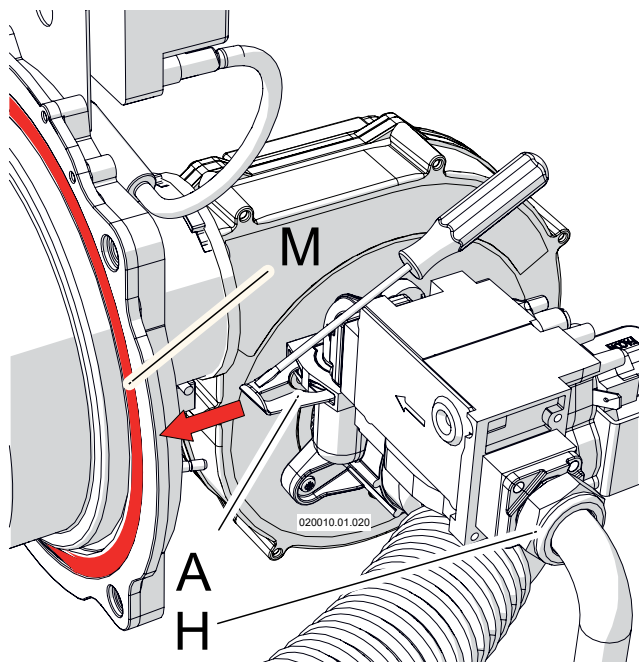
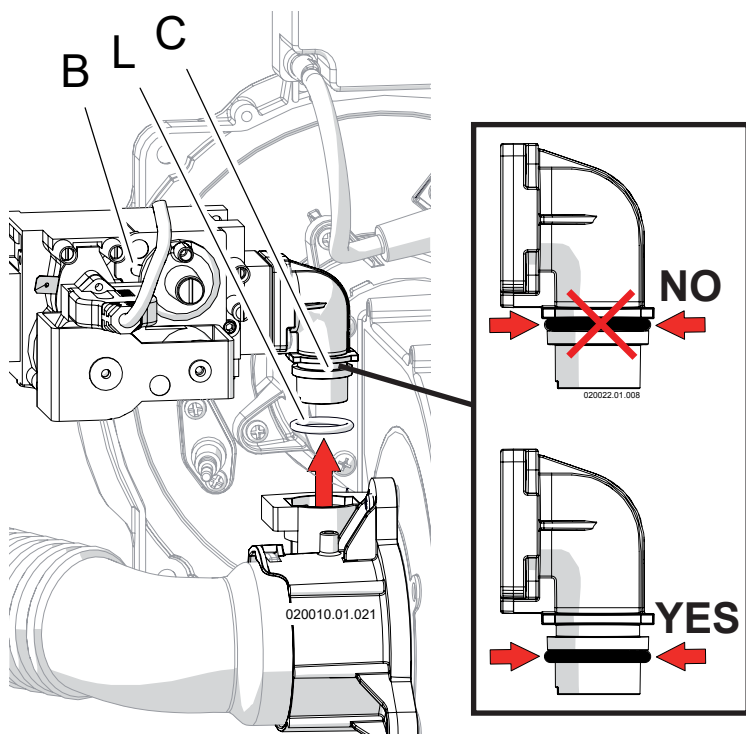

Figure 16-5 Nut and spring that fixes the gas valve
Figure 16-6 Remove the gas valve
- 7.- Unscrew nut "H" (Figure 16-5). Pay attention to the gasket between nut "H" (Figure 16-5) and the gas valve;
- 8.- Take away the spring "A" as per Figure 16-5. Help yourself with a screwdriver;
- 10.- Remove the gas valve from its position (see Figure 16-6). Take care attention to the o-ring "L" of Figure 16-6;
- 17.- Replace gasket "M" as per Figure 16-5 (Part number for this gasket is in Section 15). Take care that the gasket and its site are clean;
! WARNING!!! Pay attention to the gasket "M" (Figure 16-5) during reassemble. When finished, perform a leakage test with the burner firing. Always use an approved leak detection method. Failure to comply with this warning can cause fire, extensive property damage, severe personal injury or death!
- 18.- Reassemble the components by proceeding in reverse order. Pay attention in the reinstalling of gasket between nut "H" of Figure 16-5 and of the o-ring "L" of Figure 16-6. These must be in good condition. If not they must be replaced with;